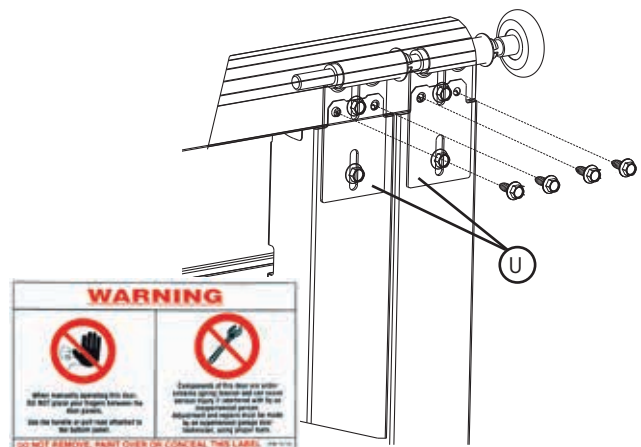

Fig: 3.2.4
- f) Once the top panel is in place and adjusted to vertical the additional locking fixings in the top hanger (U) must be added. Fig 3.2.4.